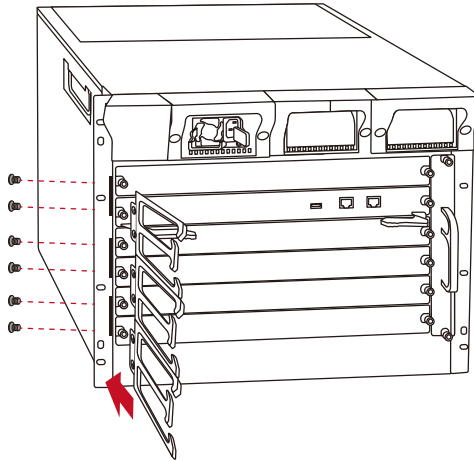

Figure 3-7 Installing It in the Wire Rack
Step 2 Install it in the wire rack and fasten 6 screws into the CS-6306R on the left section, as shown in Figure 3-7.